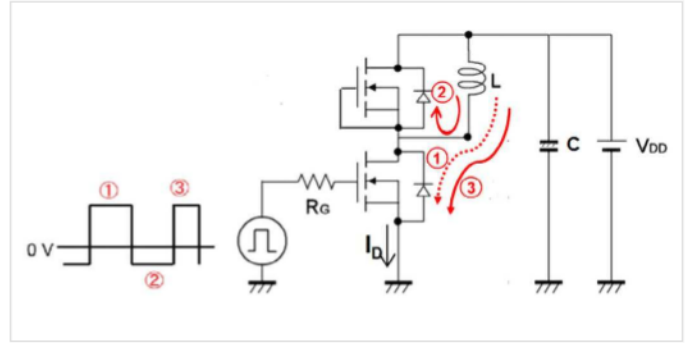
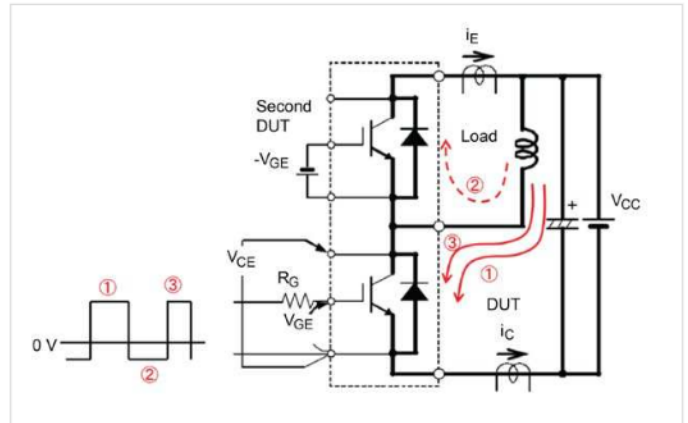
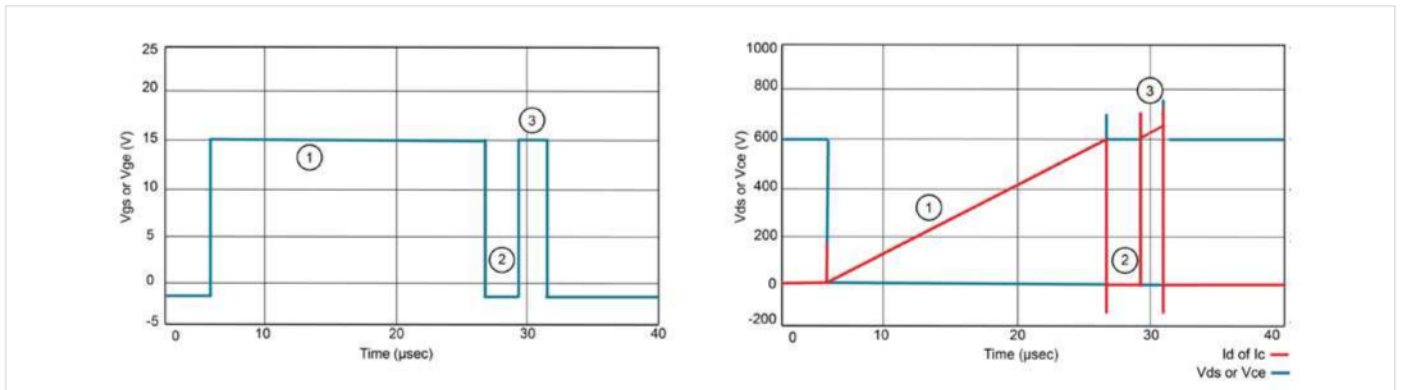
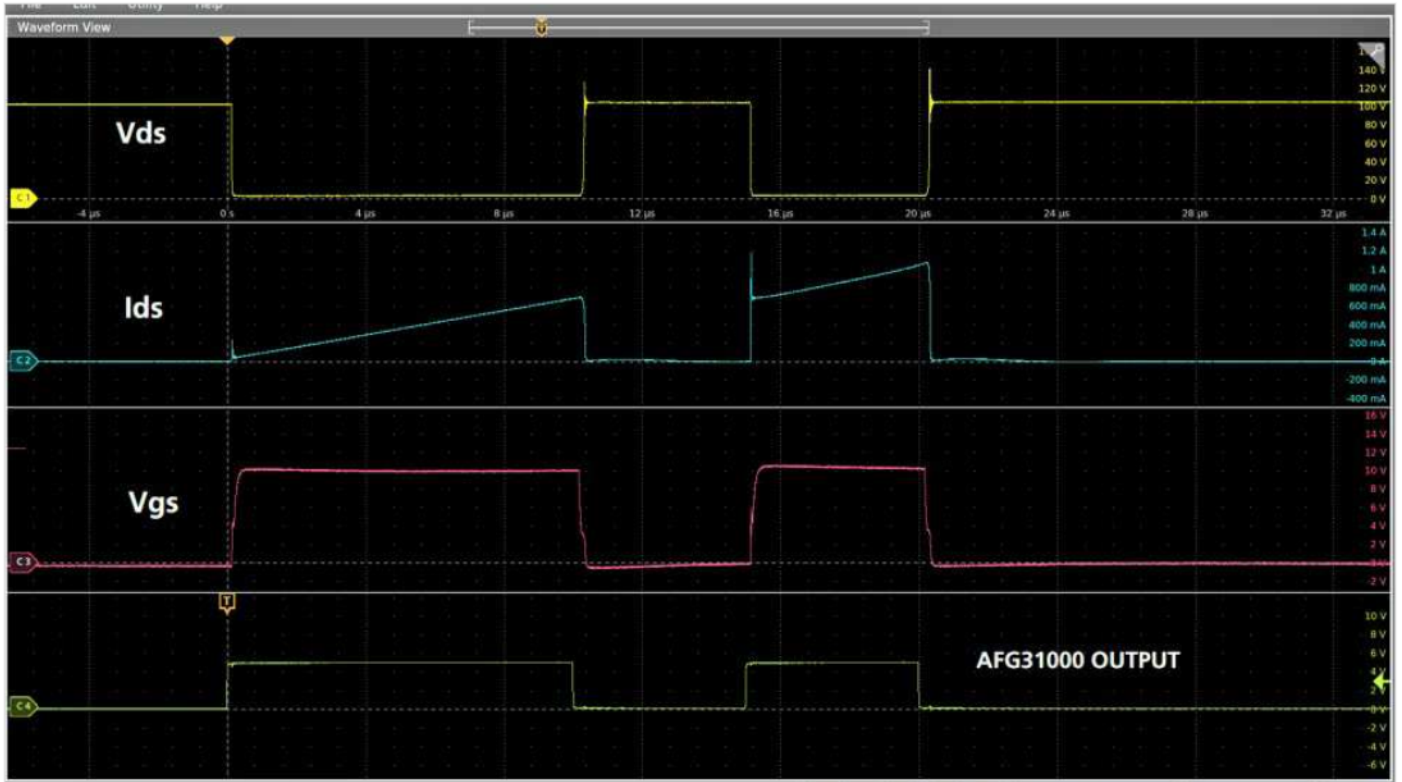

Figure 6: Current Flow with MOSFETs as D.U.Ts.
Figure 7: Current Flow using IGBTs as D.U.Ts.
Figure 8: Typical Waveforms of the Double Pulse Test.
Figure 16: Double Pulse Test waveforms.
Figure 6 shows the current flow within the different stages of the test for a Double Pulse Test with MOSFETs. The same current flow would apply when using IGBTs as shown in Figure 7.
Figure 8 shows typical measurements taken on the low side MOSFET or IGBT. Here are the different stages of the Double Pulse Test (These stages refer to Figures 6, 7 and 8)
- The first step, represented by turn-on pulse number 1, is the initial adjusted pulse width. This establishes current in the inductor. This pulse is adjusted to get to the desired test current ( $I_d$ ) as shown in **Figure 8**.
- The second step (2) is to turn-off the first pulse, which creates current in the free-wheeling diode. The turn-off period is short to keep the load current as close as possible to a constant value through the inductor. **Figure 8** shows  $I_d$  on the low side MOSFET that goes to zero in step 2; however, the current is flowing through the inductor and the high side diode. This could be seen in **Figures 6 and 7**, as the current flows through the diode of the high side MOSFET (the MOSFET that doesn't get turned on).
- The third step (3) is represented by the second turn-on pulse. The pulse width is shorter than the first pulse so that the device is not overheated. The second pulse needs to be long enough for the measurements to be taken. The current overshoot seen in **Figure 8** is due to the reverse recovery of the free-wheeling diode from the high side MOSFET/IGBT.
The SMU instrument is set to source 100 V into HV. The 5 Series MSO is then set to take a single trigger measurement. Now the AFG31000 is triggered to output pulses. The resulting waveforms are then captured on the scope as shown in **Figure 16**.
Notice the waveforms in **Figure 16** resemble the ones shown in **Figure 8**. Again, the current overshoot seen on  $I_{ds}$  is due to reverse recovery of the free-wheeling diode from the high side MOSFET/IGBT. This spike is intrinsic to the device being used and will contribute to the losses.